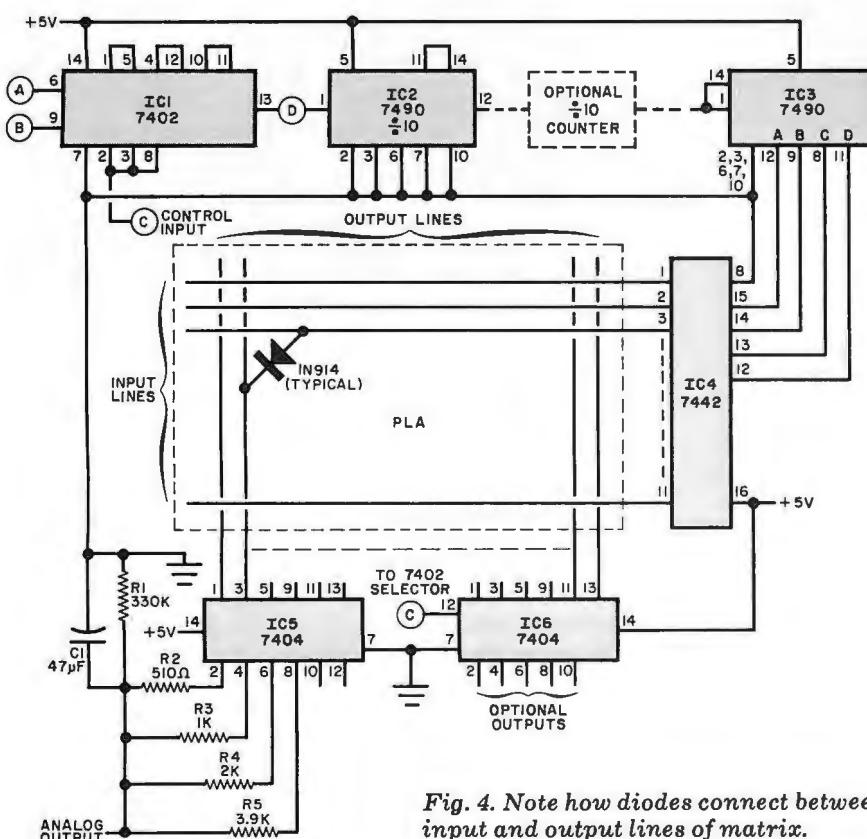

Fig. 4. Note how diodes connect between input and output lines of matrix.
The main circuit shown in Fig. 4, accepts the selected clock output from IC1 and drives one or more decade counters
can be used to drive other TTL devices, relay drivers, or, in the case shown in Fig. 4, a simple D/A converter that can be used to create various output wave-shapes.
The heart of the system is the diode matrix PLA that uses conventional silicon diodes (such as the 1N914) to form the matrix. In the prototype, a commercial pc board with a built-in 18 x 18 matrix of press-in terminals was used, although one can be built of conventional "flea clips" (or similar) with each horizontal (input) row interconnected and wired to its pin on IC4. Each vertical (output) column is built in a similar fashion and connected to the IC5/IC6 inputs. The selected diode clips should be capable of accepting the diode leads. The diodes are installed as shown in the matrix of Fig. 4.
The simple D/A converter shown in Fig. 4 consists of four resistors (although more can be added as the matrix is enlarged) that sum across R1. The voltage developed across these resistors is dependent on the placement of the diodes in the matrix. The square wave generated across R1 is smoothed by C1. The value of C1 can be changed as desired, or any other method of filtering can be used.
Oscilloscope photo (A) shows the output of the digital/analog converter with C1 (Fig. 4) removed at a frequency of 8 Hz. With C1 in, the output would form a sine wave such as that shown at (B). More elaborate filtering will smooth out the sharp edges. Waveform (C) shows how the PLA controls its own clock frequency. The first pulses are about 8 Hz followed by a 2.5-second delay until triggered again. Photo (D) is the PLA controlling its own frequency. The peaks inside the pulse are all 8-Hz rate, while the next pulse will not occur for more than 2 seconds.